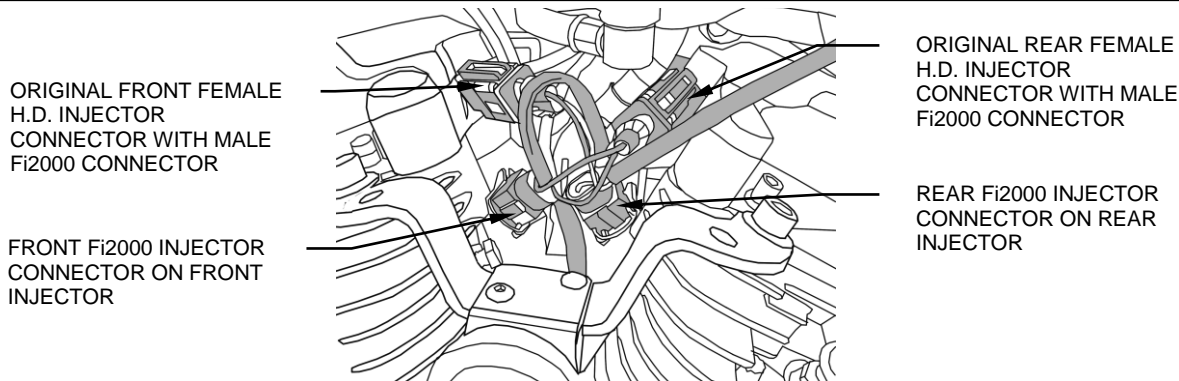

FIGURE 2
5. Using the Fi2000 injector harness labeled front, mate the Fi2000 female connector onto the front fuel injection connector, (it will look a little different then the stock female Harley connector.) Plug the male Fi2000 connector into the original female Harley connector. Repeat using the other pair of connectors for the rear injector. Make sure to keep the correct orientation for the front and rear injectors and connector harnesses, see Figure 2.